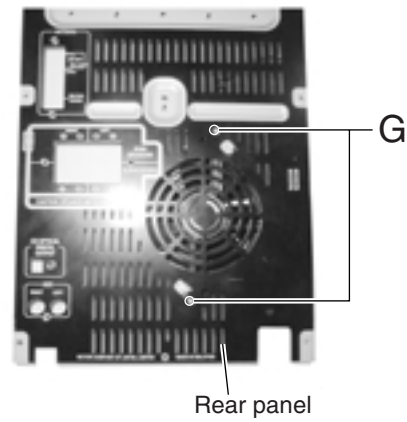

Fig.18
■ Removing the fan assembly (See Fig.18, 19)